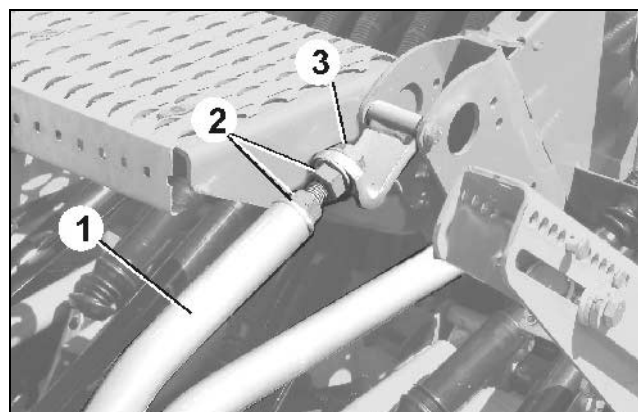

Fig. 85
The setting is carried out by extending or shortening the upper harrow suspension (Fig. 85/1):
3. Slacken the counter nuts (Fig. 85/2).
4. Set the upper harrow suspension on all fixing points to the same length. To do this evenly screw all bolts (Fig. 85/3).
5. After setting retighten the locking nuts (Fig. 85/2).